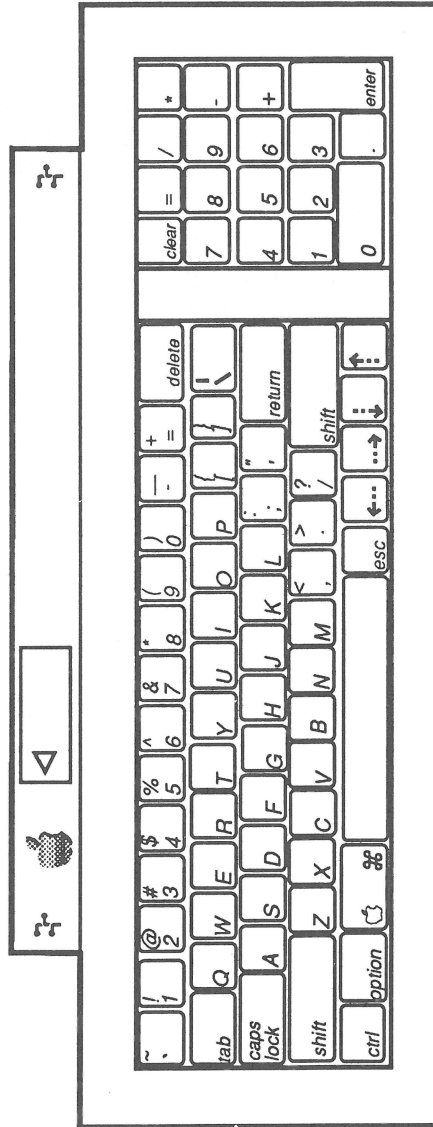

FIGURE 2
IPL.5	Keyboard II (Figure 2)
□ KEYBOARD II (Figure 2)